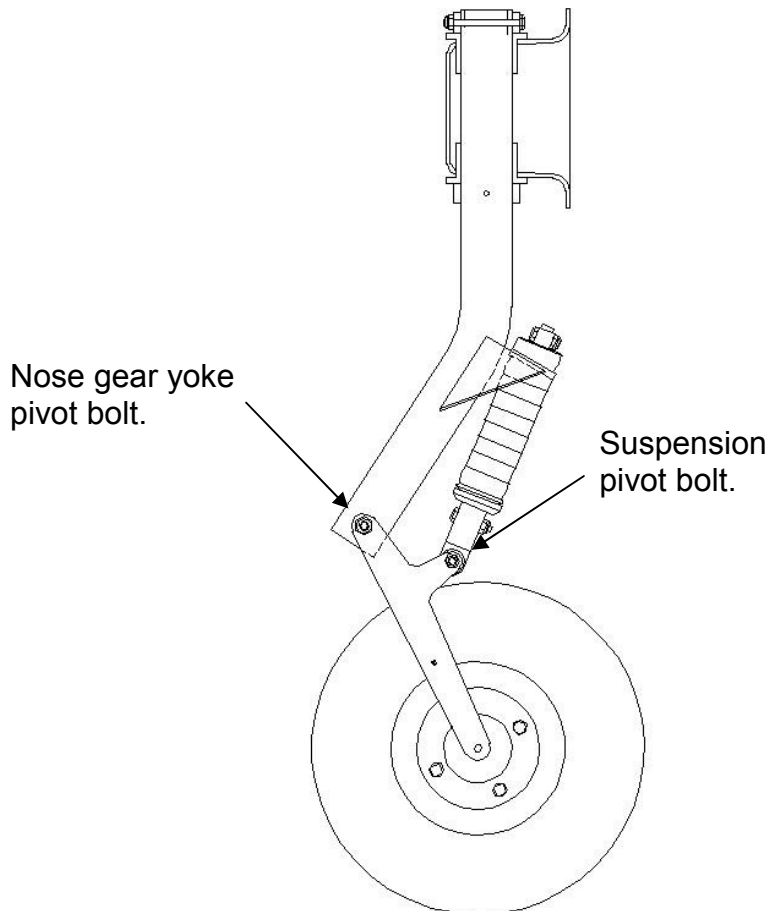

Figure 1. Nose Leg Assembly
All Jabiru Aircraft with a 1/4" bolt through the nose leg wheel yoke pivot. (See Figure 1.).
- v. Remove the suspension pivot bolt from yoke (ref Figure 1.)